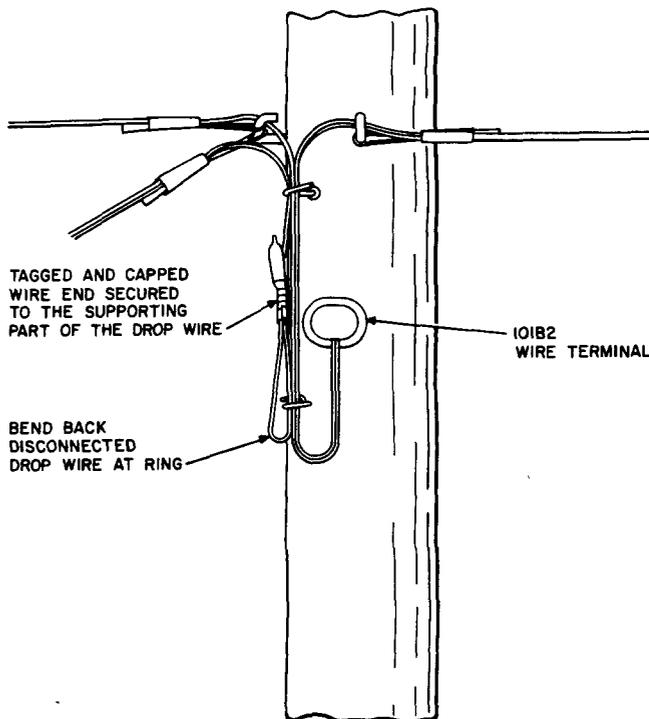

Fig. 7—101-Type Wire Terminal, Pole Mounted
8.01 *Party Line Taps in Drop Wire Runs Along a Lead:* Pull the free end of wire out of the wire terminal, tag and cap it and secure to the supporting part of the drop as shown in Fig. 7. If the party line extending beyond the wire terminal pole is disconnected, treat its free end at